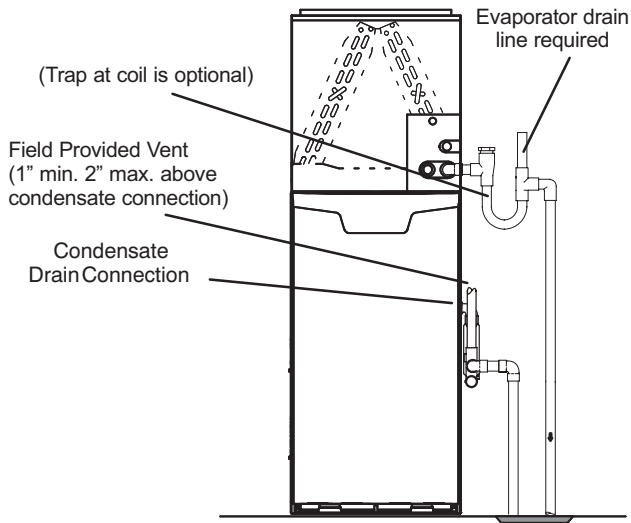
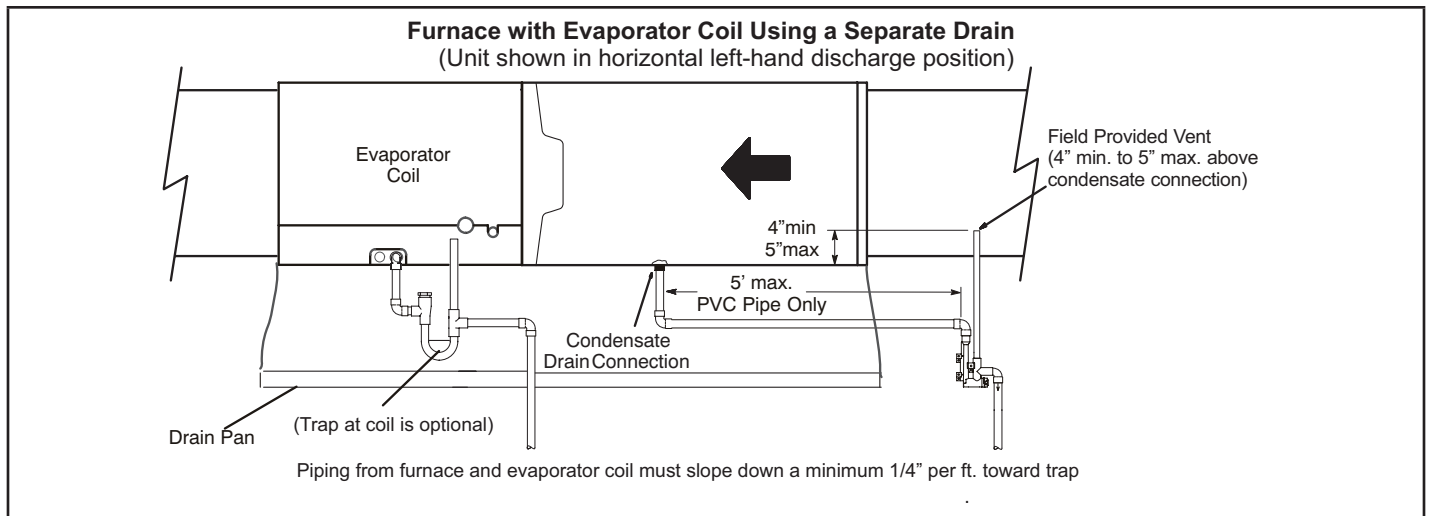
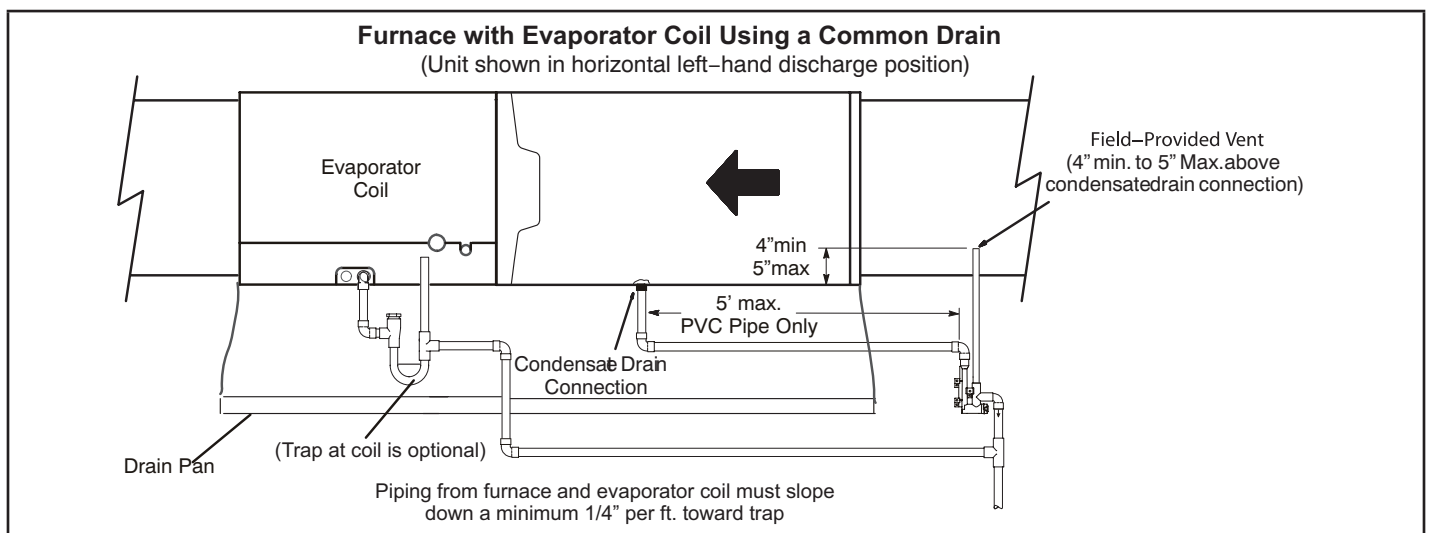

FIGURE 49
FIGURE 51
FIGURE 52
- 5 - FIGURE 49 and FIGURE 51 shows the furnace and evaporator coil using a separate drain. If necessary the condensate line from the furnace and evaporator coil can drain together. See FIGURE 52 and FIGURE 53.
Upflow furnace (FIGURE 49) - In upflow furnace applications the field provided vent must be a minimum 1" to a maximum 2" length above the condensate drain outlet connection. Any length above 2" may result in a flooded heat exchanger if the combined primary drain line were to become restricted.
Horizontal furnace (FIGURE 51) -